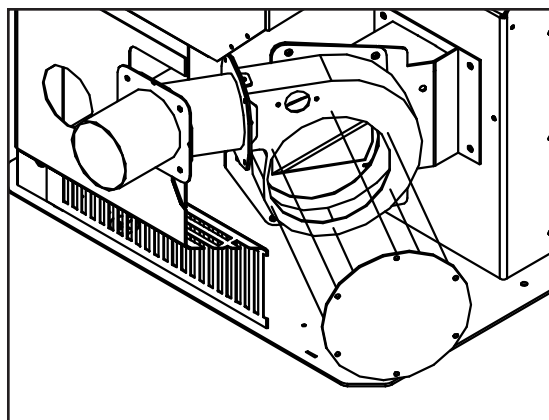

Figure 18: Exterior Blower Kit.
1. Remove the left hand cabinet side by removing the two (2) screws down the front. Loosen the three screws on the back of the cabinet side and remove panel.
2. Loosen the six (6) screws that hold the back grill in place. Lift the back grill off the screws.
3. Disconnect the Exhaust blower wires from the wire harness. Remove the exhaust blower motor from the housing; six (6) screws. Cover hole in housing with cover plate provided (see Figure 18).
5. Install the exhaust blower housing box into the pipe placed through the wall thimble, seal with high temperature silicone. Fasten the box to the wall with (4) four screws, seal edges of box to wall with clear silicone.